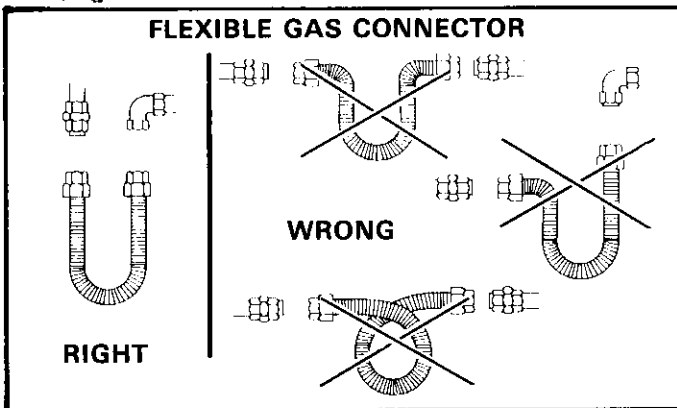

FIGURE 24
- 15 - Gas Connector (used on AGA units only) (Figure 24)**